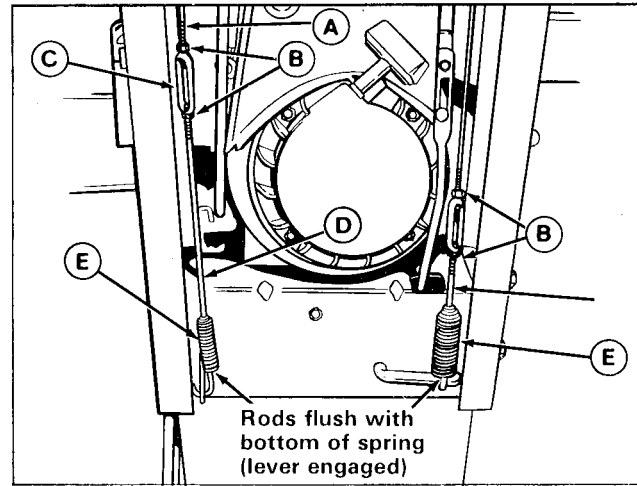

Figure 22. Drive Tension Adjustment
With the drive levers engaged, bottom end of lower rods (D, figure 22) should be flush with bottom of springs (E). To adjust, loosen the two nuts (B). Hold lower rod to keep from turning and turn the turnbuckle (C) toward the right to lower rod or toward the left to raise rod. Engage the drive lever to check the adjustment. When correct, tighten the two nuts against the turnbuckle. (Hold turnbuckle with pliers while tightening nuts.)